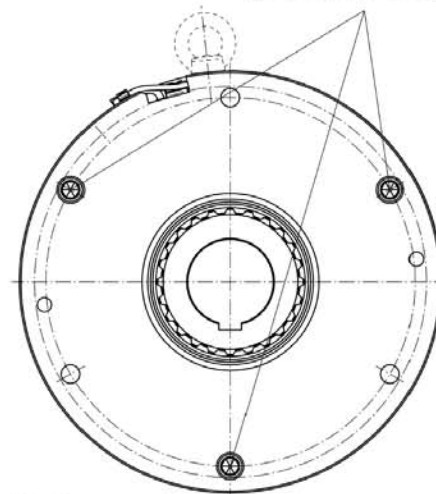

Fig. 7
1. Mount the hub (1) onto the shaft, bring it into the correct position (the length of the key should lie over the entire hub) and secure it axially (e.g. using a locking ring).
2. Lightly grease an O-ring (1.1) and insert it into the hub (1) groove nearest to the machine wall.
4. Lightly grease the second O-ring (1.1) and insert it into the not occupied hub (1) groove.
5. Push brake body 1 over the hub (1) and the rotor collar of the rotor (4.1) (please make sure that the fixing holes align with the threaded holes in the machine wall). Insert the cap screws (7.1) evenly distributed into brake body 1 (Positions as shown in Fig. 7) and tighten them evenly all around **using a torque wrench and a tightening torque of 200 Nm**.